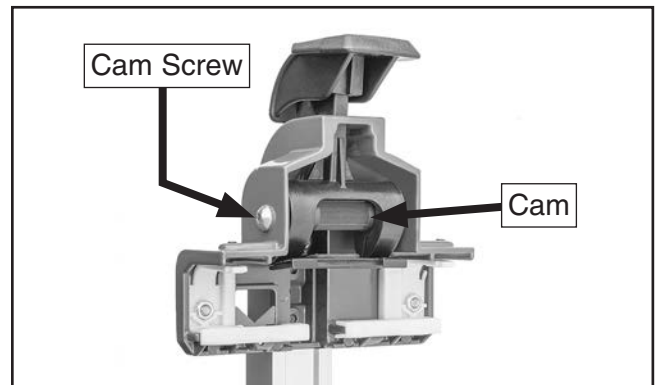

Figure 50. Cam and cam screw location.
3. Loosen cam screw shown in **Figure 50**.
4. Tighten cam by turning it towards lock lever (see **Figure 50**).